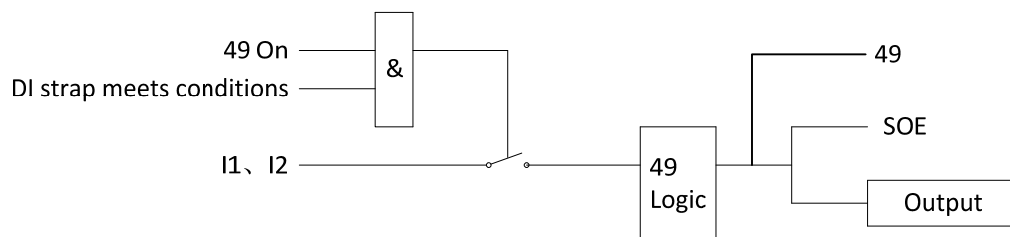

Fig. 3-96 Logic diagram of motor thermal overload protection
Thermal overload protection element (49) can be used for programmable logic. The logic diagram is as shown in Fig. 3-96.